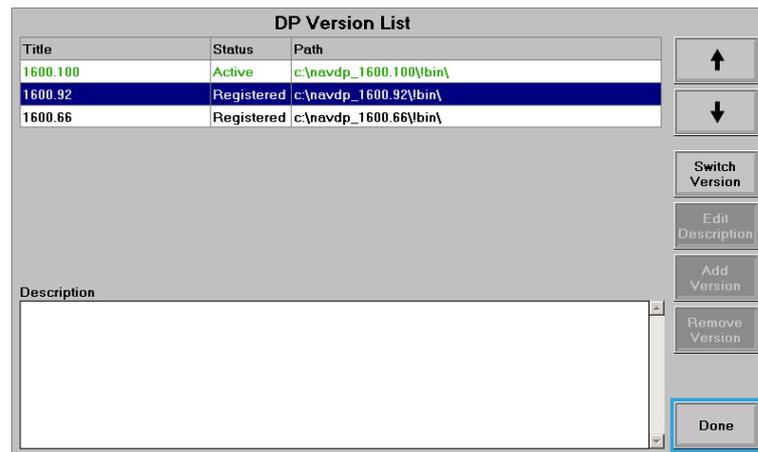

Figure G.20: DPSHELL. Active version information
- 2.2. Press “Switch Version” item in “Services” menu. “DP Version List” will appear (see Figure G.20):
- 2.6. Version selected in 2.4 has an “Active” status (see Figure G.20).